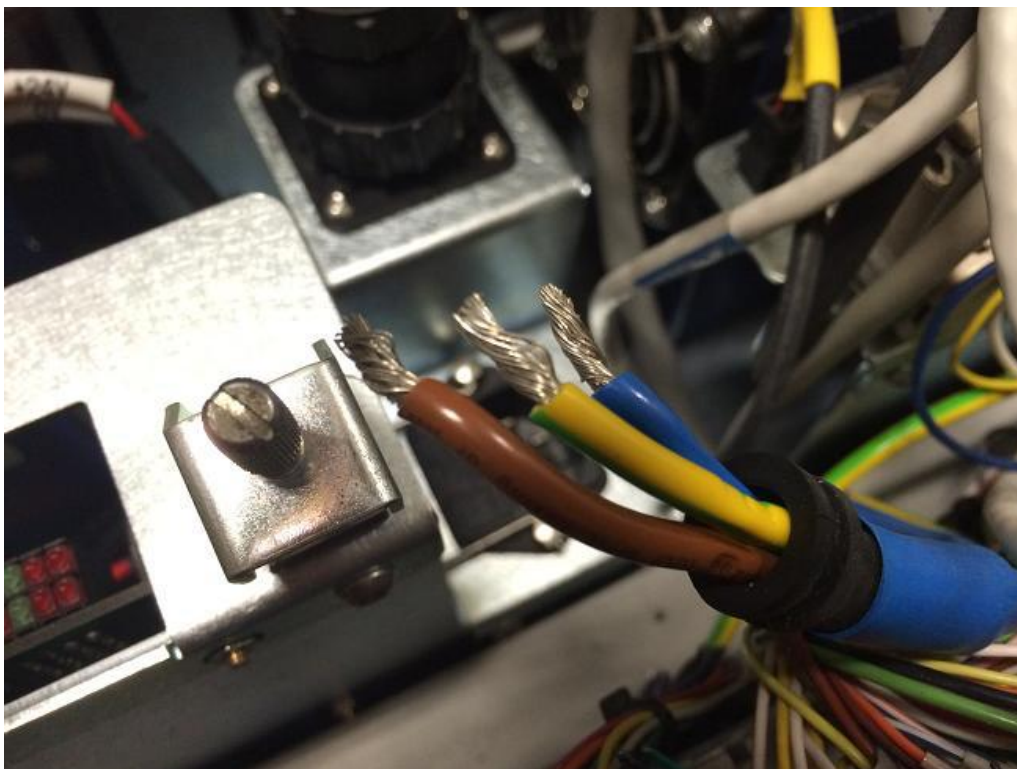

Figure 16
21. Remove 3 x Wire Cores from Horizontal Type Power Connector as Figure 16.